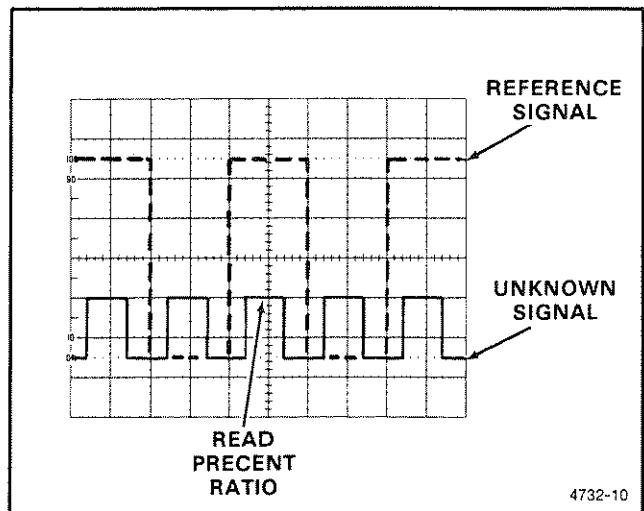

Figure 2-13. Voltage ratios.
5. Horizontally position the waveform so that its top-most features cross the center vertical graticule line (see Figure 2-13).